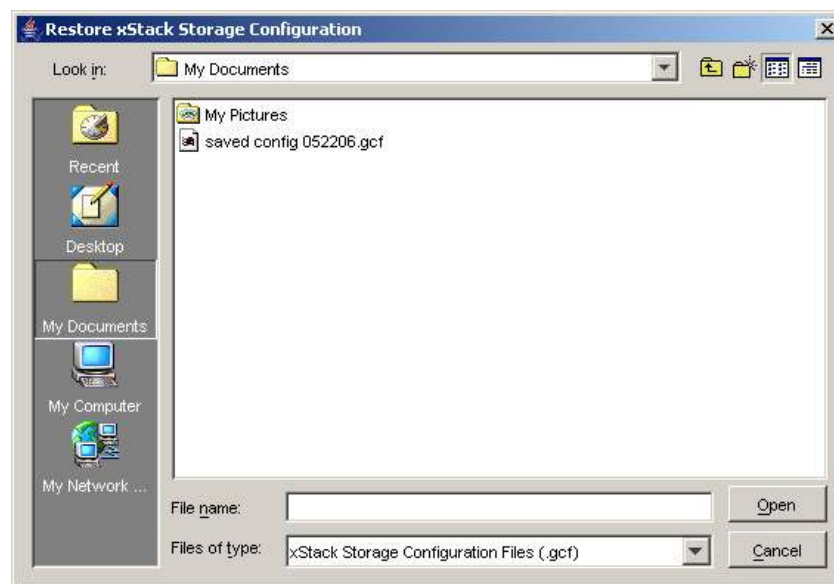

Figure 5-50. Restore xStack Storage Configuration Dialog Box
1. On the **File** menu, click **Restore xStack Storage Configuration**. The Restore xStack Storage Configuration dialog box appears (see Figure 5-50).